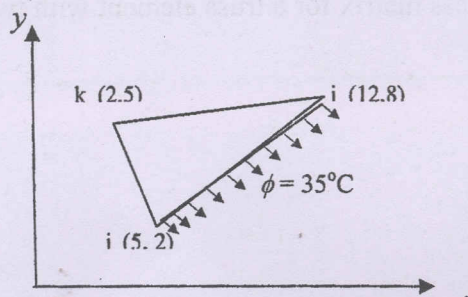

Fig. 4
14. a). State the properties of eigen vectors. (3)
b). Calculate the conductance matrix  $[K^{(e)}]$  and load vector  $\{F^{(e)}\}$  for the triangle element shown in fig.4 . The thermal conductivities are  $k_x = k_y = 4 \text{ W/cm}^\circ\text{C}$  and  $h = 0.3 \text{ W/cm}^2^\circ\text{C}$ . Thickness of the element is 1cm. All coordinates are given in cms. Convection occurs on the side joining modes  $i$  and  $j$ . (7)